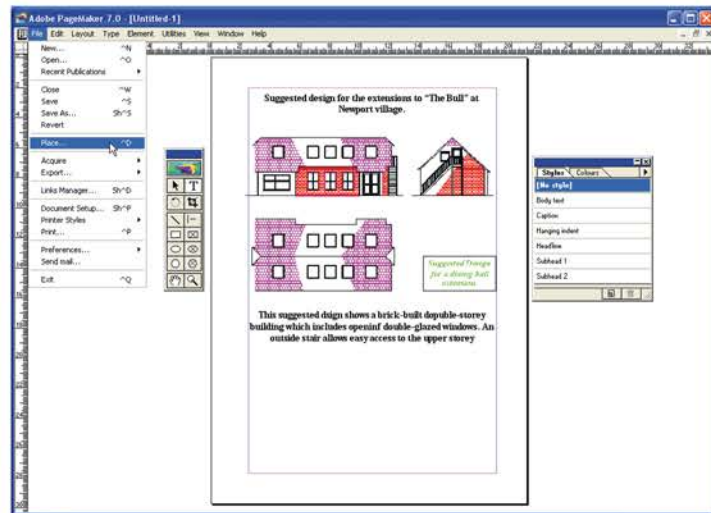

Fig. 14.4 An *eps file placed in position in a PageMaker document
SECOND EXAMPLE – EPS FILE (FIG. 14.4)
2. Open a desktop publishing application. That shown in Fig. 14.4 is **PageMaker**.
3. From the **File** drop-down menu of **PageMaker**, *click* **Place . . .**. A dialog appears listing files which can be placed in a PageMaker document. Among the files named will be **building.eps**. *Double-click* that file name and an icon appears, the placing of which determines the position of the ***eps** file drawing in the **PageMaker** document (Fig. 14.4).